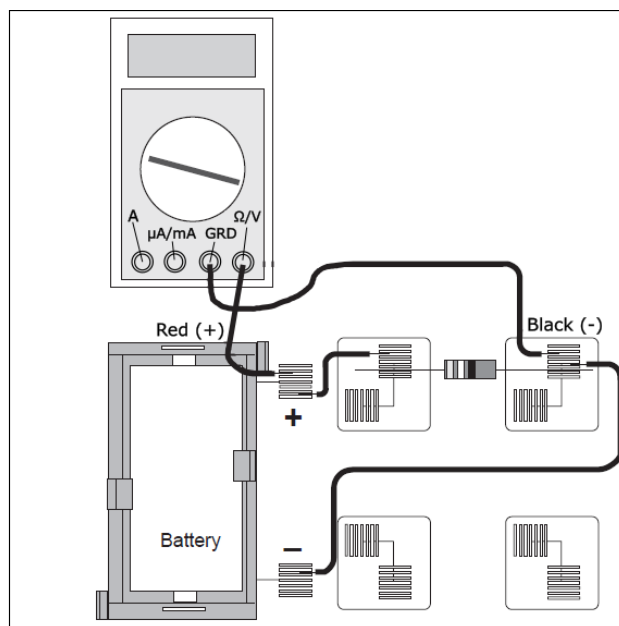

Figure 3.1b
- Disconnect the wires from the Multimeter and connect a wire from the positive lead (spring) of the battery directly to the first resistor you used, as shown in Figure 3.1b. Change the Multimeter to the 2 V DC scale and re-connect the leads, with the red lead now connected to the resistance and voltage port, as shown also in Figure 3.1b. Measure the voltage across the resistor and record it in Table 3.1.